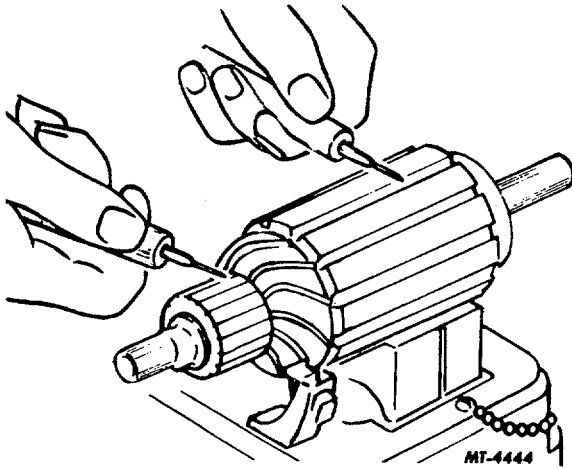

Fig. 9 Testing Armature for Grounds
- c. Grounds in the armature can be found using a test lamp and prods, Fig. 9. If the lamp lights when one prod is positioned on the commutator and the other prod on the armature core or shaft the armature is grounded.